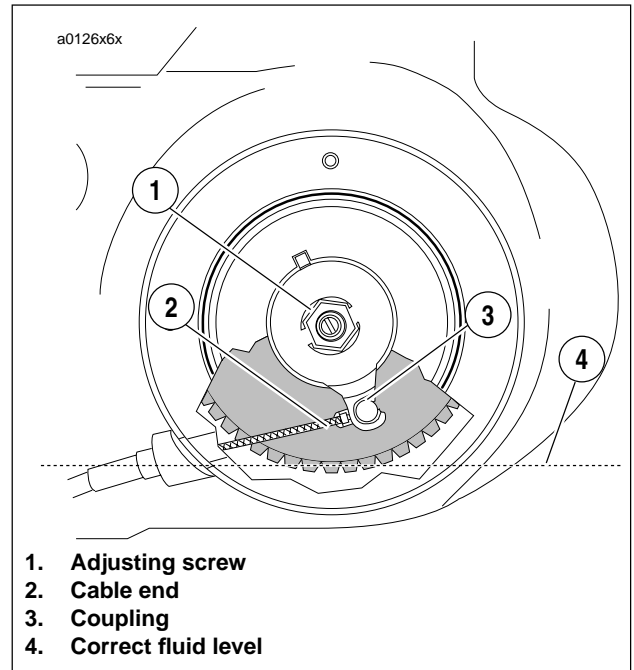

Figure 1-16. Fluid Level
5. See Figure 1-16. Inspect fluid level with motorcycle in upright position.
8. See Figure 1-16. Add SPORT-TRANS FLUID (Part No. 98854-96 quart size; Part No. 98855-96 gallon size) as required until fluid level is even with bottom of clutch diaphragm spring.